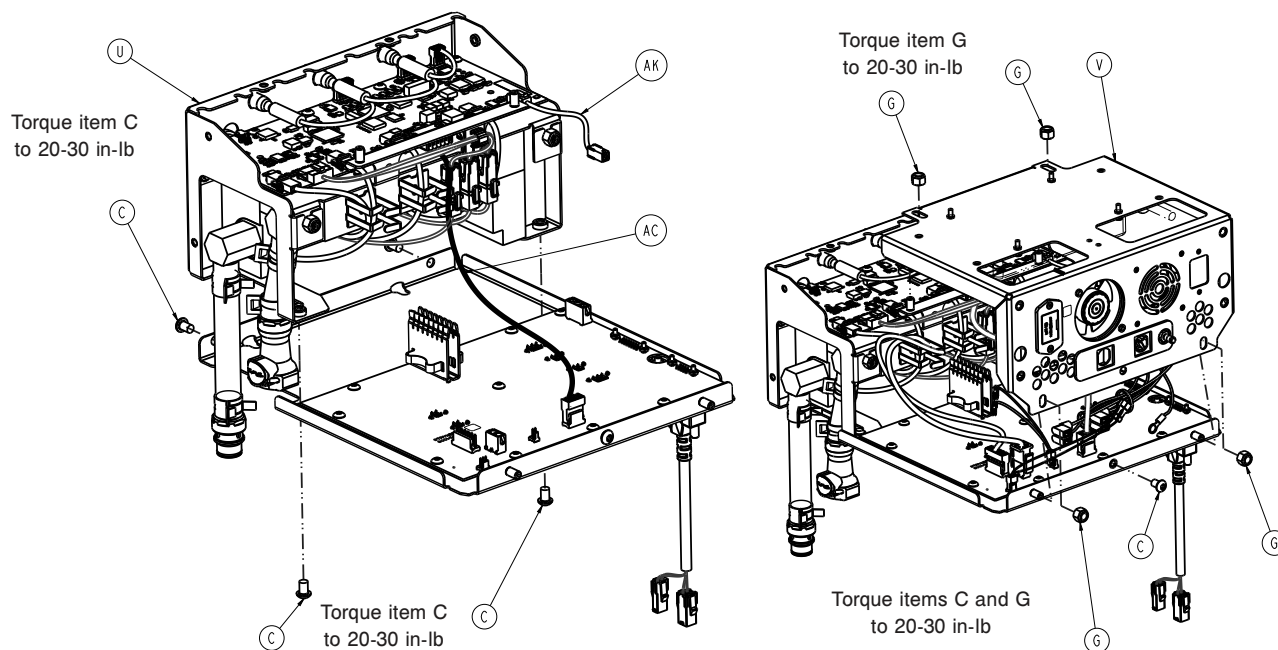

Figure 38: Manifold assembly
17. Using a T27 torx, remove the four screws (C) that secure the manifold assembly (U) to control assembly (Figure 38 on page 53).